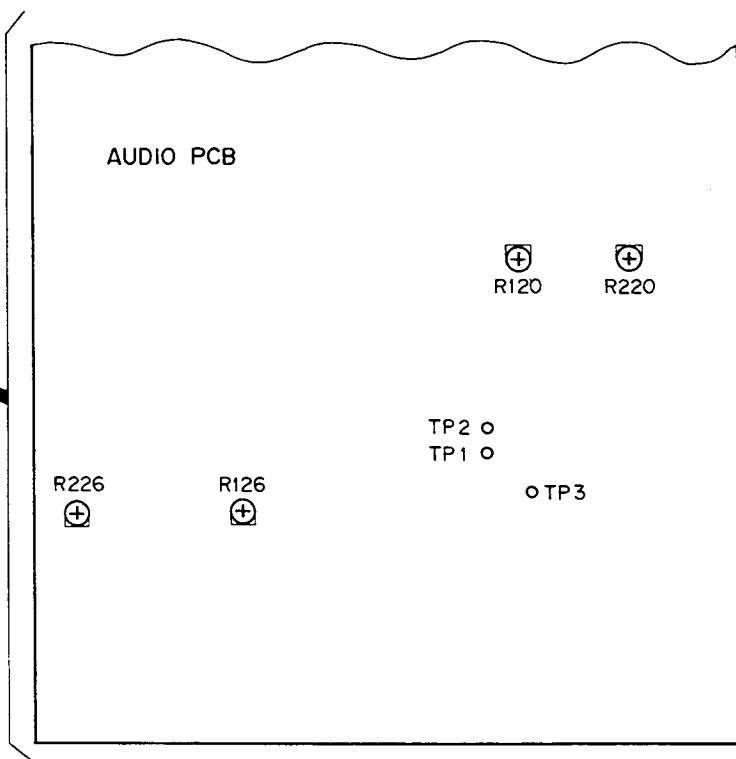

Fig. 4-9 Adjustment of the audio system and test point locations
*PCB to be adjusted: AUDIO PCB (Fig. 4-9)
*調整PCB : AUDIO PCB (図4-9)